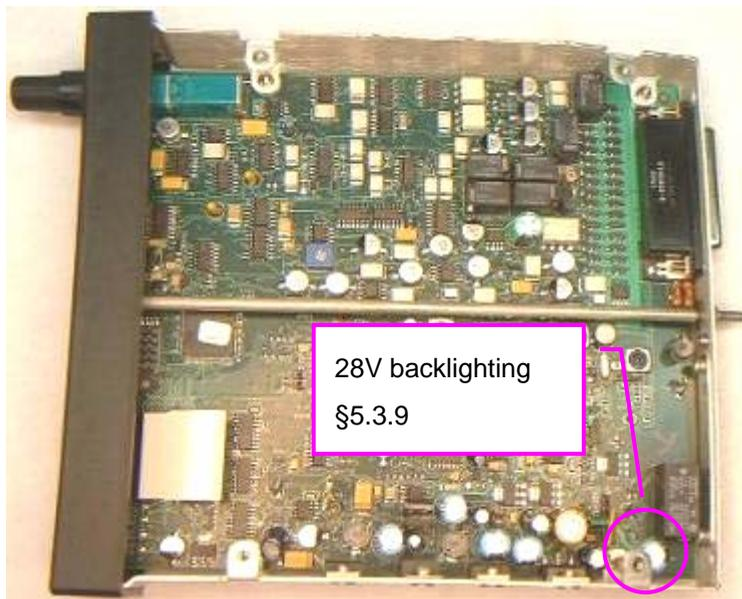

Figure 5-2 Backlight selection jumper location
2. Remove the jumper located in the back corner away from the sub-D connector from *both* pins of J9. See Figure 5-2.